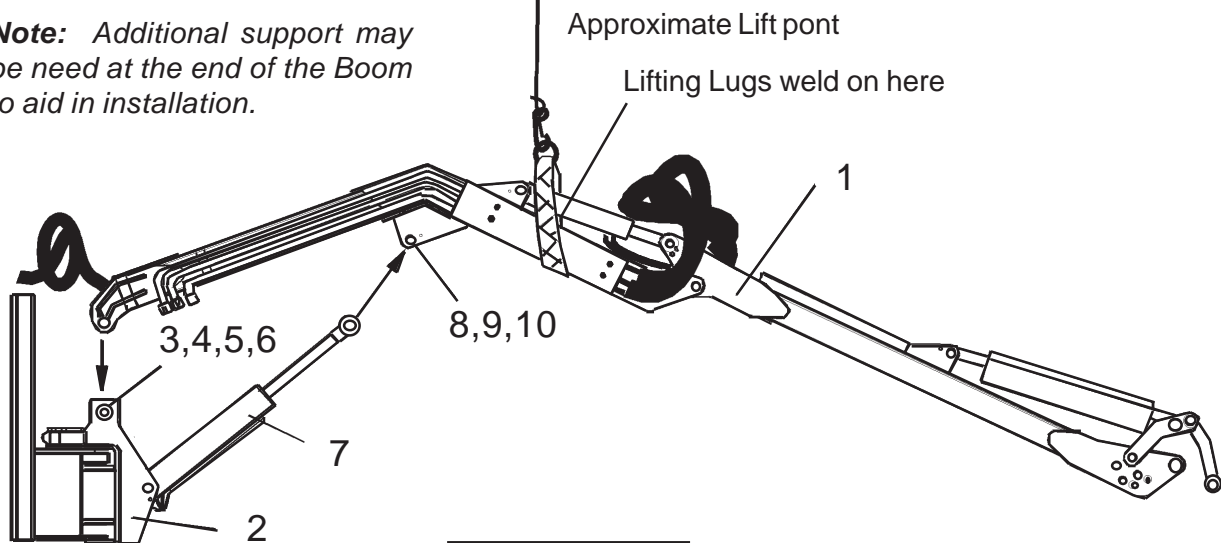

Figure 3
2. Pull the Lift Cylinder out to its full stroke, to aid in the installation of the Lift arm (See Figure 3). When Pulling Cylinder Out, attach a Hose to the Rod end and lay the Hose in a drain pan. This will catch any Oil expelled when Cylinder is pulled out.
3. With a hoist raise the Boom Arm (1) and lower onto the King Post (2). Align the Boom Arm and King Post with the Lift Hinge Point. Insert Main Pin Bolt (3) into Boom Weldment and Turning Arm. Attach Lockwasher (4), Washer (5) and Bolt (6) and tighten (also see Parts Section on the Boom Assembly) (See Figure 3, 4 & 5)
4. Attach the Rod end of the Lift Cylinder (7) to the Lift Section with Pin (8), Bolt (9) and Nut (10) (also see Parts Section on the Boom Assembly) (See Figure 3).